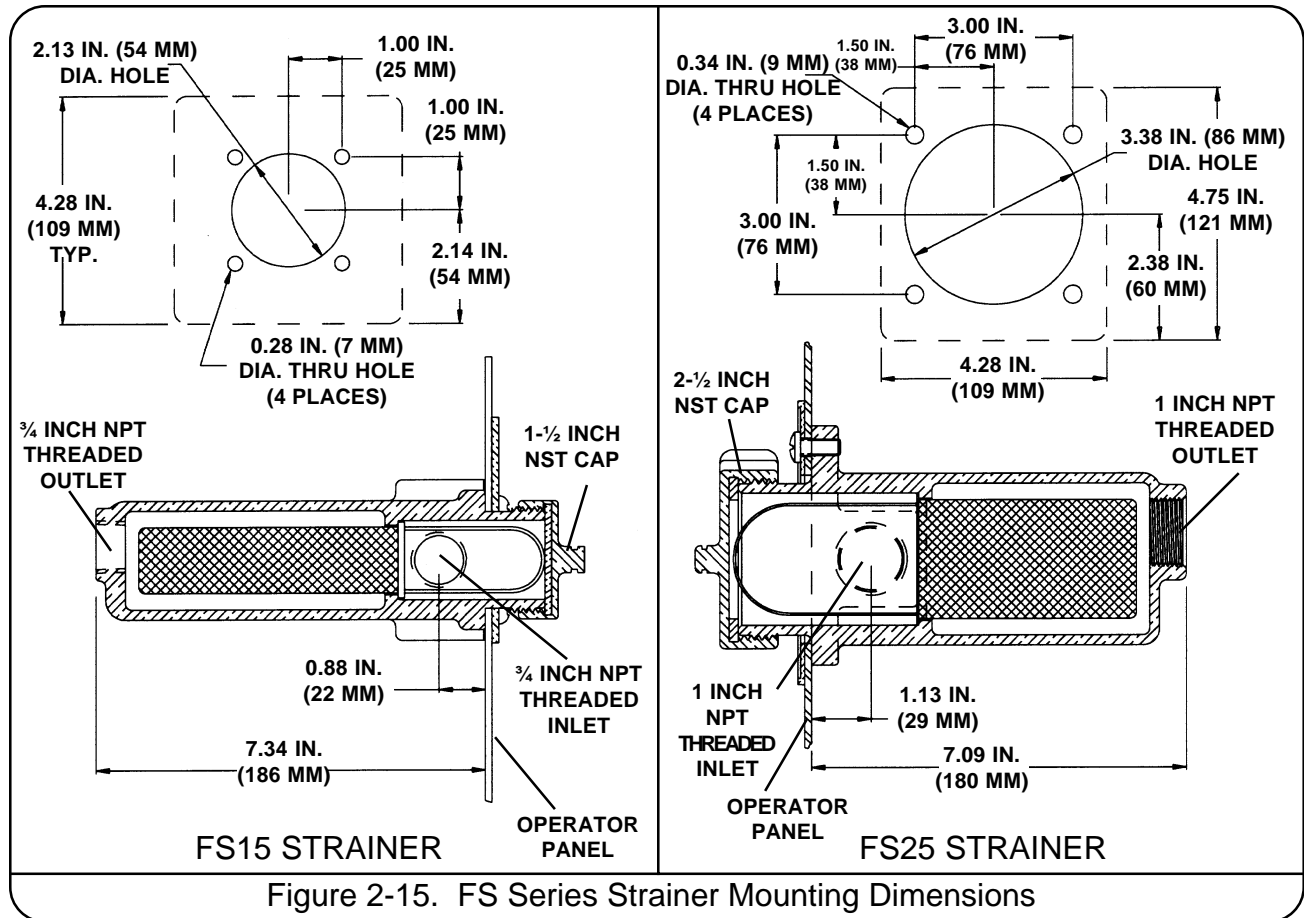

Figure 2-15. FS Series Strainer Mounting Dimensions
3. Using the nameplate as a guide, or refer to the diagrams in figure 2-15, mark holes for mounting the foam strainer. The holes for the FS15 strainer mounting screws are 9/32 inch (7 mm) and the holes for FS25 strainer screws are 11/32 inch (9 mm) diameter. Additionally a hole of sufficient size for the cap threads to clear the panel is required. (FS15 strainer 2.13 inches (54 mm) and FS25 strainer 3.38 inches (86 mm))